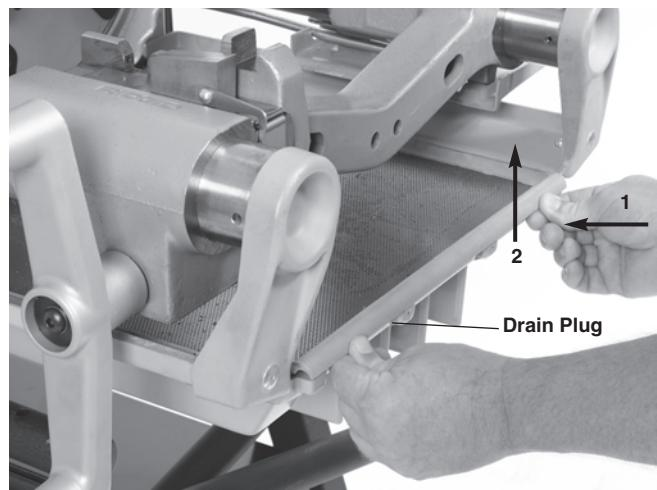

Figure 29 – Removing the Draw Tray Assembly
To remove the draw tray assembly, push toward the front chuck (1) and lift (2) (see *Figure 29*).